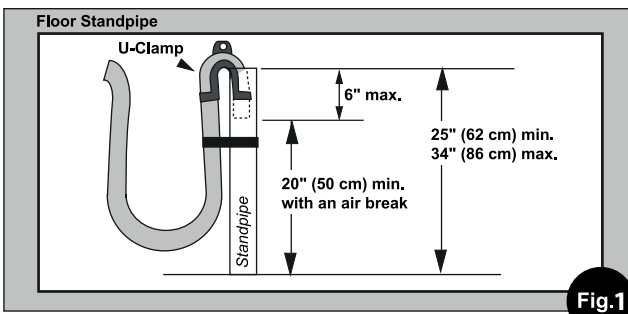

Fig. 1
It is possible for the water to be discharged into a sink, standpipe or drainpipe, but an air break must be available at a min. 20" height to prevent the machine from siphoning (Fig. 1).
- Insert the outlet end of the drain hose into the standpipe, wall or floor drain (Fig. 1). **NOTE:** The outlet end of the drain hose **MUST** be at least 20" (50 cm) above the base of the machine. No more than 6" of the drain hose should be inserted into the drain pipe to prevent siphoning.